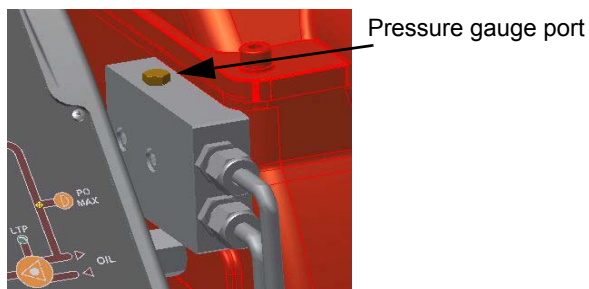

Fig. 25
- 6 the nozzle supply pressure is already factory-set and must not be changed. Only if necessary, adjust the supply pressure as follows (see related paragraph); insert a pressure gauge into the port shown on Fig. 25 and act on the pump adjusting screw **VR** (see Fig. 38) as to get the nozzle pressure at 20bar (Monarch or Fluidics nozzles - see page 36).